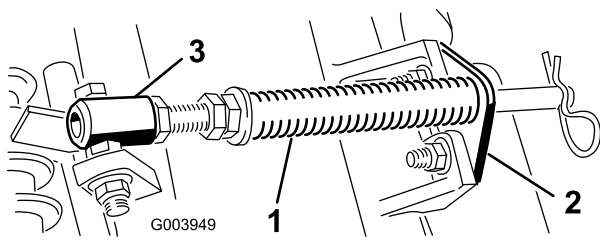

Figure 9
- A. Remove the 2 carriage bolts and nuts securing the rod bracket to the cutting unit tabs (Figure 9).
- B. Remove the flange nut securing the spring tube bolt to the carrier frame tab (Figure 9) Remove the assembly.